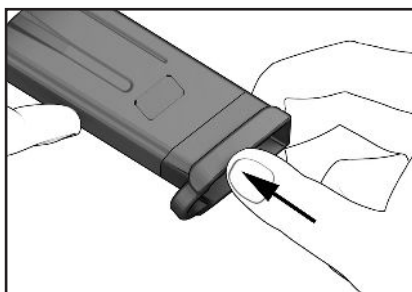

Figure 41
6. Check to see if the locking tabs on the floorplate are securely locked into the housing and the locking plate fits within the hole in the floorplate. (Figure 41)